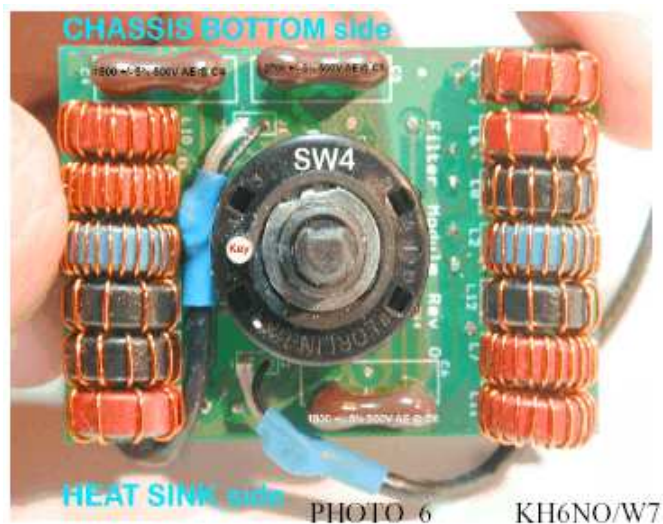
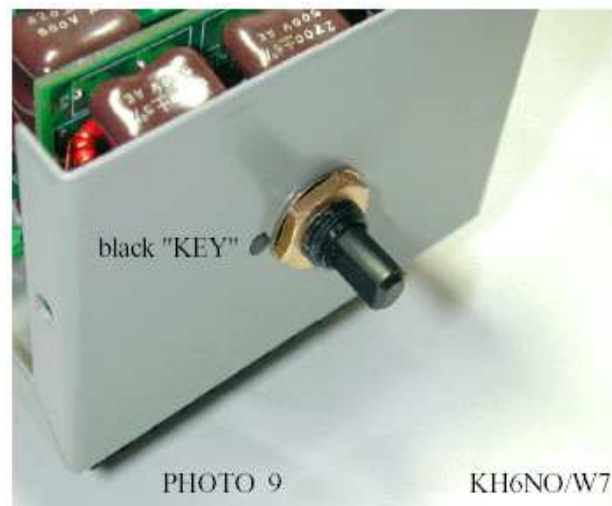

Figure 9. Installation of SW4.
Figure 10. Filter board and SW4 position on chassis.
Figure 9 is a photo of the toroids and some capacitors mounted on the top layer of the filter module circuit board. Appendix D also has a good parts placement diagram. The builder should refer to both in order to assist in correct toroid installation. In order to remove excess toroid leads in confined areas where wire cutters cannot be positioned properly grasp the end of the soldered toroid lead with long-nose pliers. Slowly bend the lead back and forth until it breaks off.
Figures 9 and 10 assist with correct rotary switch (SW4) installation. Note that along the top rim of the switch, close to the shaft, is a small round circular protuberance, called a key (shown and marked in read as “key” in Figure 9). This key *must* be on the top-side of the PCB closest to the side with the 6 toroids, not the 7 toroids (Figure 9). The toroid (upper side) of this filter board will face towards the metal chassis. One red toroid is seen directly below the silver mica capacitor C4 (labeled as 1500 +/- 5% 500V AE, Figure 9, upper left). This is the same upper left position shown in Figure 10, illustrating how the filter board is to be positioned within the chassis.
- ❑ Note in Figure 9 the two coax cables, which will be constructed and mounted in the next section. It is now recommended that those cables are attached to J1 and J2 on the *back side* of the filter board, not the front side as shown in figure 9.
panel as per Figure 10. Dress its coax cable interconnects so as to not interfere with other assemblies.